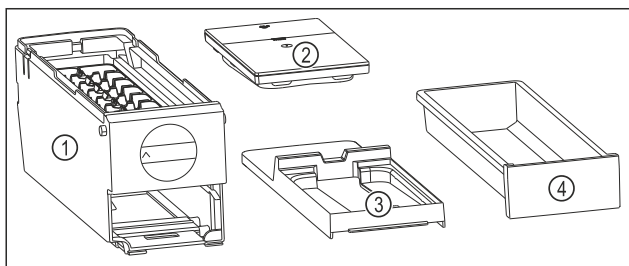

Fig. 136 Components of the EasyTwist-Ice
- ▷ EasyTwist-Ice is disassembled in four parts. (see Fig. 136)
- Only disassemble the EasyTwist-Ice into the illustrated components. (see Fig. 136)
- Clean the EasyTwist-Ice body Fig. 136 (1) as a complete unit.